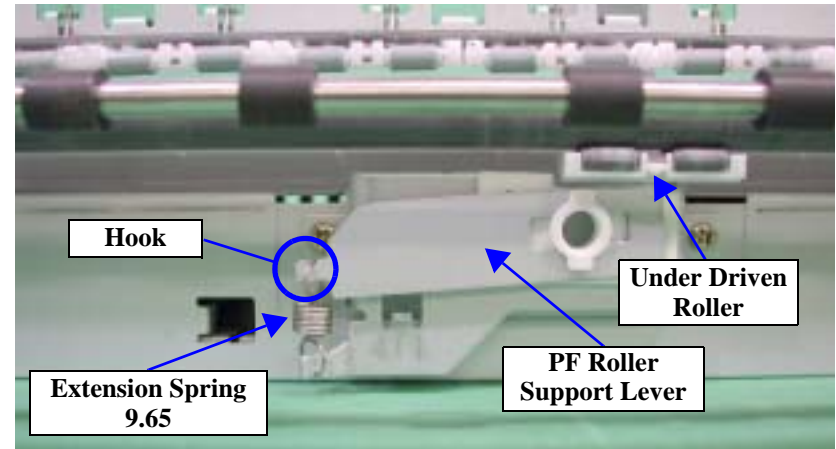

Figure 4-127. Removing the Extension Spring 9.65
- When sliding the PF Roller, fully take care so that the coating of the PF Roller is not peeled off by the Lower Driven Roller and by the hook on the left side of the PF Roller Support Lever as seen from the printer front. Refer to Figure 4-127, "Removing the Extension Spring 9.65".